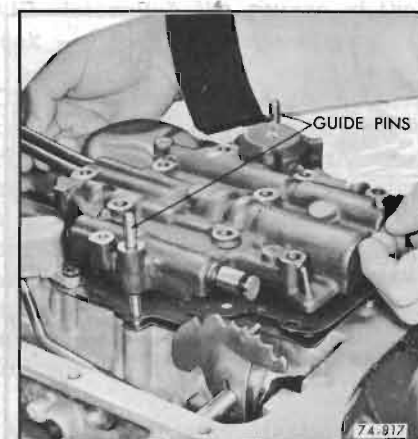

Figure 74-783
3. Install two guide pins (control valve assembly attaching bolts with heads removed). See Figure 74-783.
4. Install control valve assembly and governor pipes. See Figure 74-783.